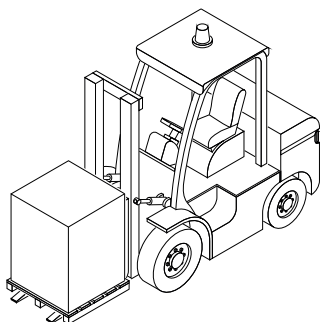

Fig. 5.1
- Handle the packaged machine only with forklift truck or pallet trucks with forks (Fig. 5.1).